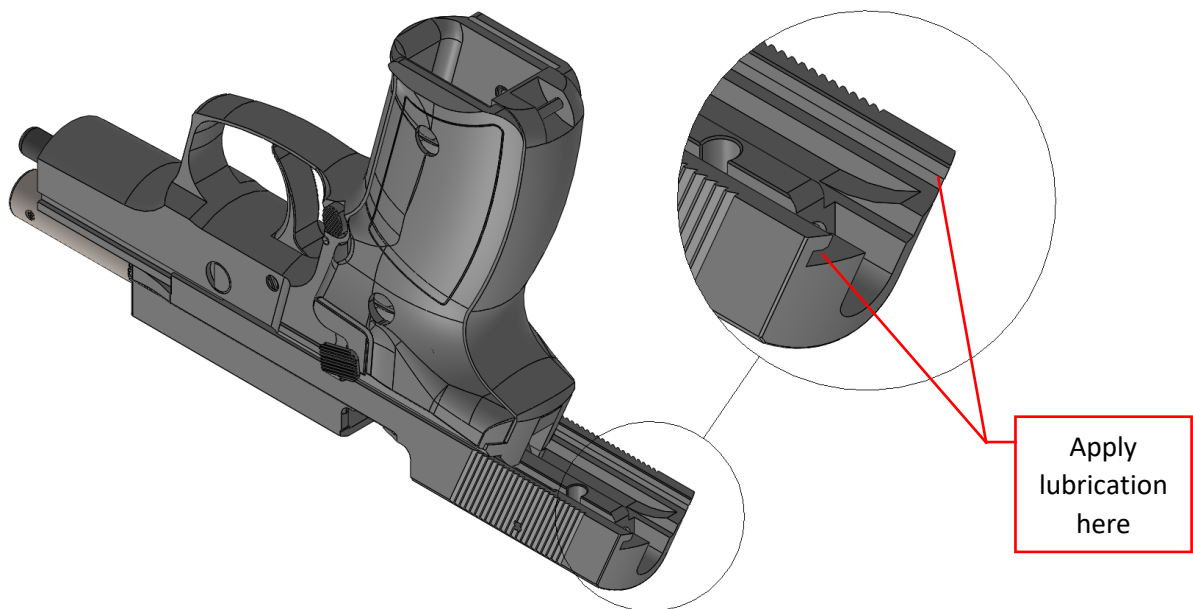
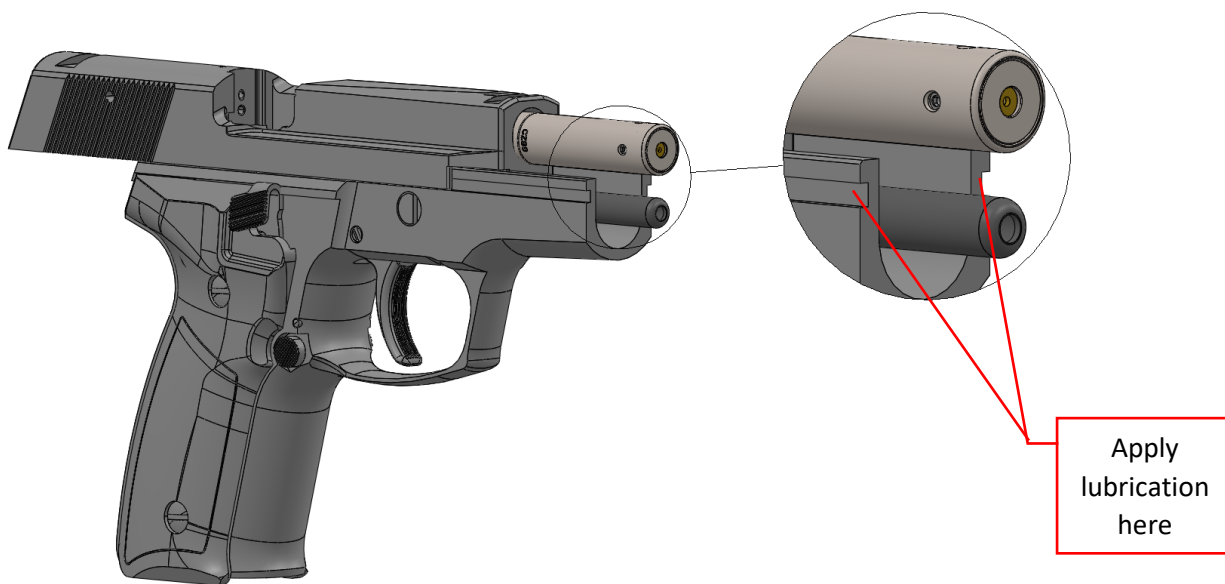

Figure 5: Lubrication of Slide Rails
Figure 6: Lubrication of Frame Rails
- With the slide locked to the rear position, apply a thin layer of approved lubricant to the rear section of the slide rails (Figure 5) and the front section of the frame rails (Figure 6). Move the slide front-to-back several times to spread the lubrication along the rails.